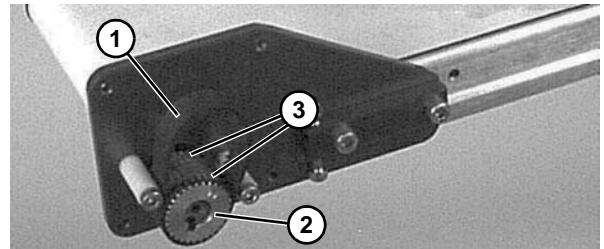

Figure 53
4. Remove old timing belt (Figure 53, item 1).
5. Place new timing belt (Figure 53, item 1) over driven pulley (Figure 53, item 2) and between belt flanges (Figure 53, item 3).